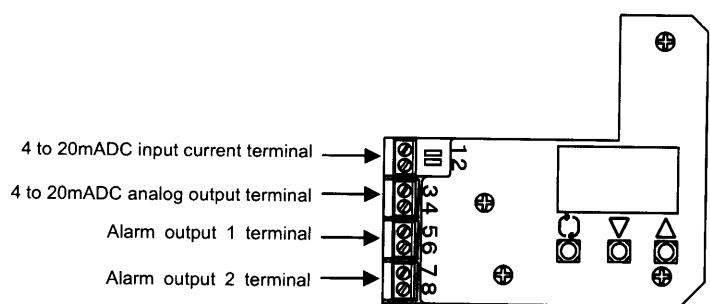

Fig. 9
- (1) Remove the positioner body cover.
- (2) Connect input current wiring from an adjusting meter (controller) and each output wiring following Fig. 9\*1.